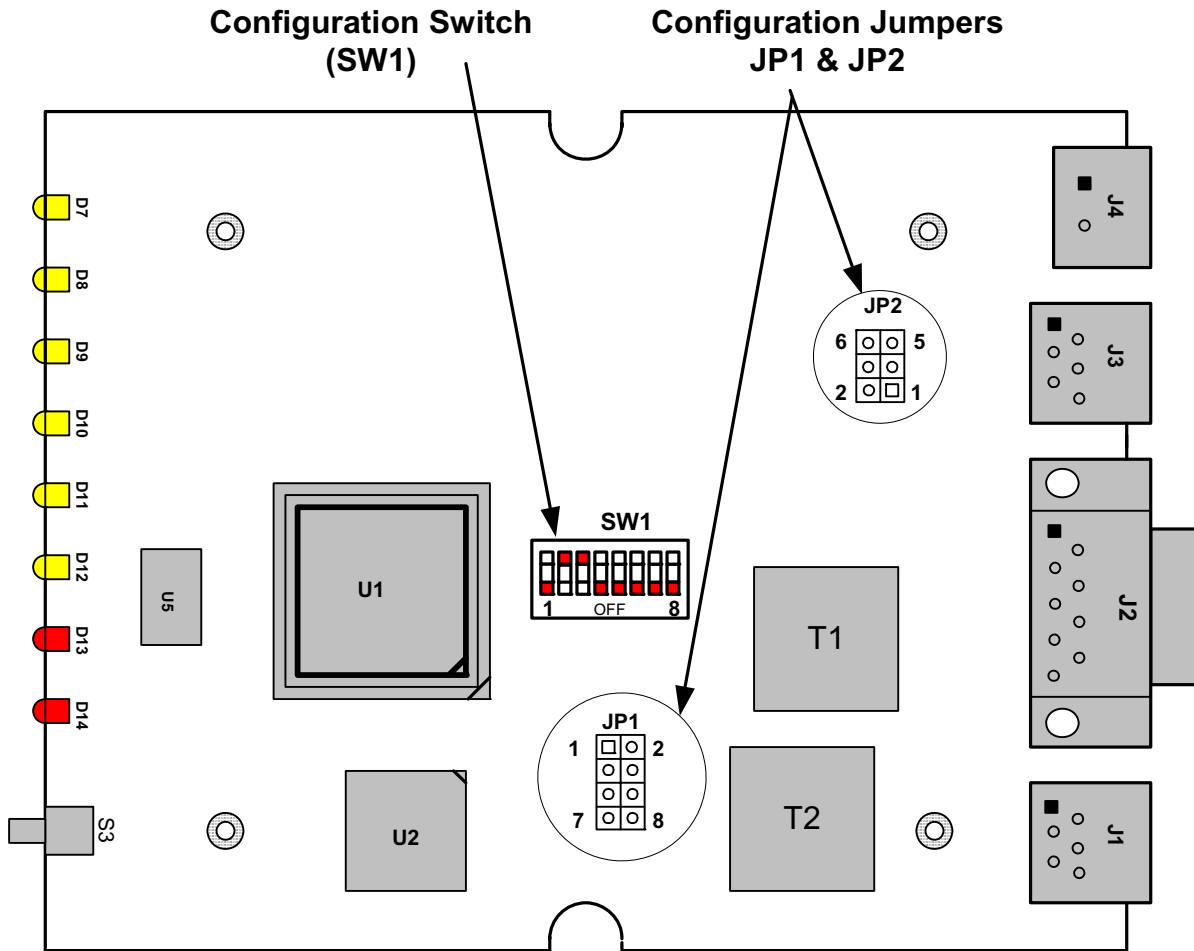
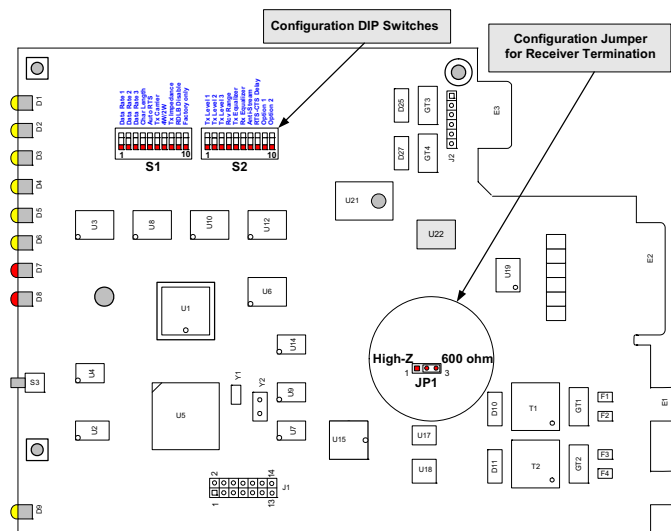

Figure 2-4. IG202T & IGV23 Stand-alone Modem Board
Figure 2-5. IG202T & IGV23 -mount Modem Board
2. Use a small Philips screw driver to remove the two screws at the bottom of the enclosure and remove the top cover. The location of the DIP switches and jumpers for the stand-alone modem are shown in Figure 2-4. For DIP switches and jumpers on the rack-mount plug-in module, see Figure 2-5.